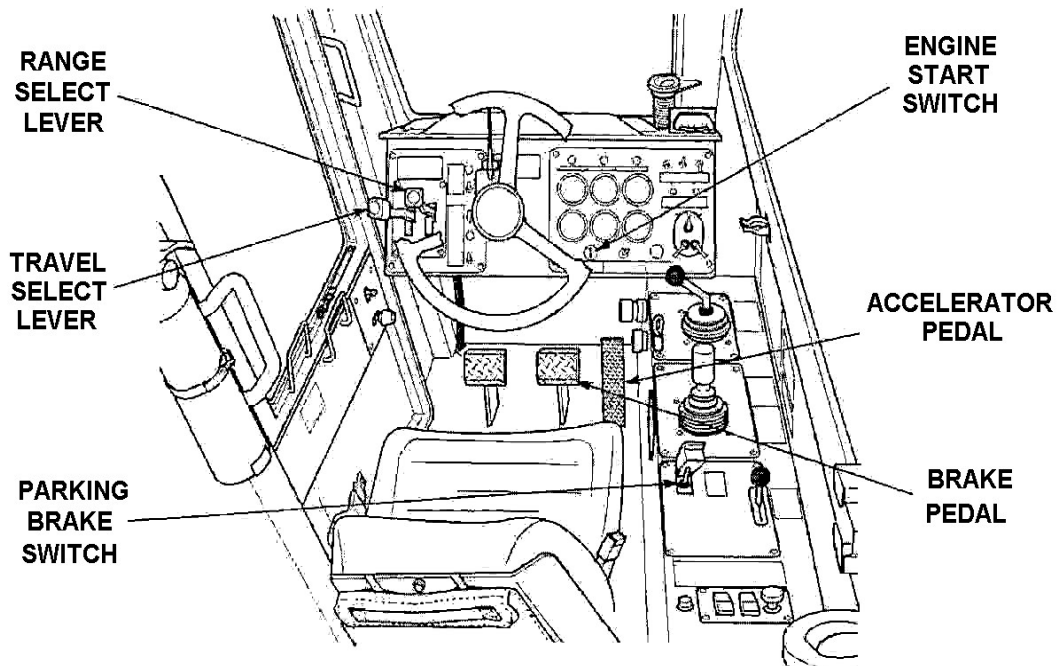

Figure 3-53
1. Start the engine (see Figure 3-53).